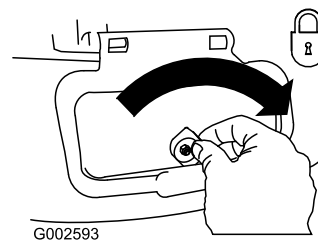

**Figure 30**
3. Install the side-discharge chute and close the door onto the chute (Figure 30).